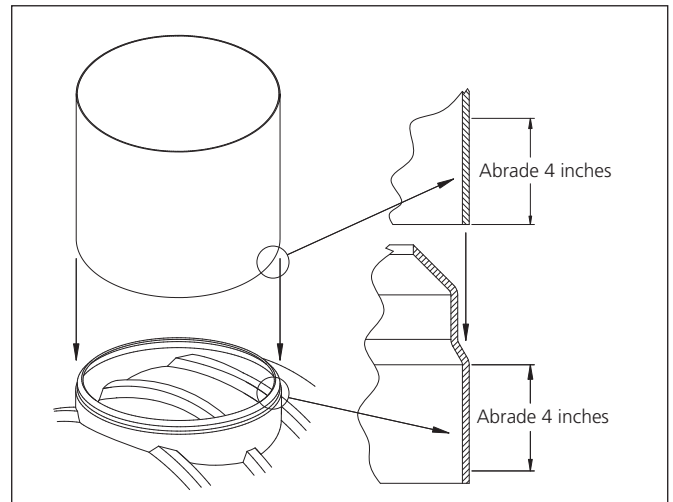

FIGURE 2-1
2.2.1. Abrade the entire circumference of the outside surface of the riser and the collar at a distance of at least 4 inches in both directions from the point where the riser body meets the collar. (See FIGURE 2-1.)